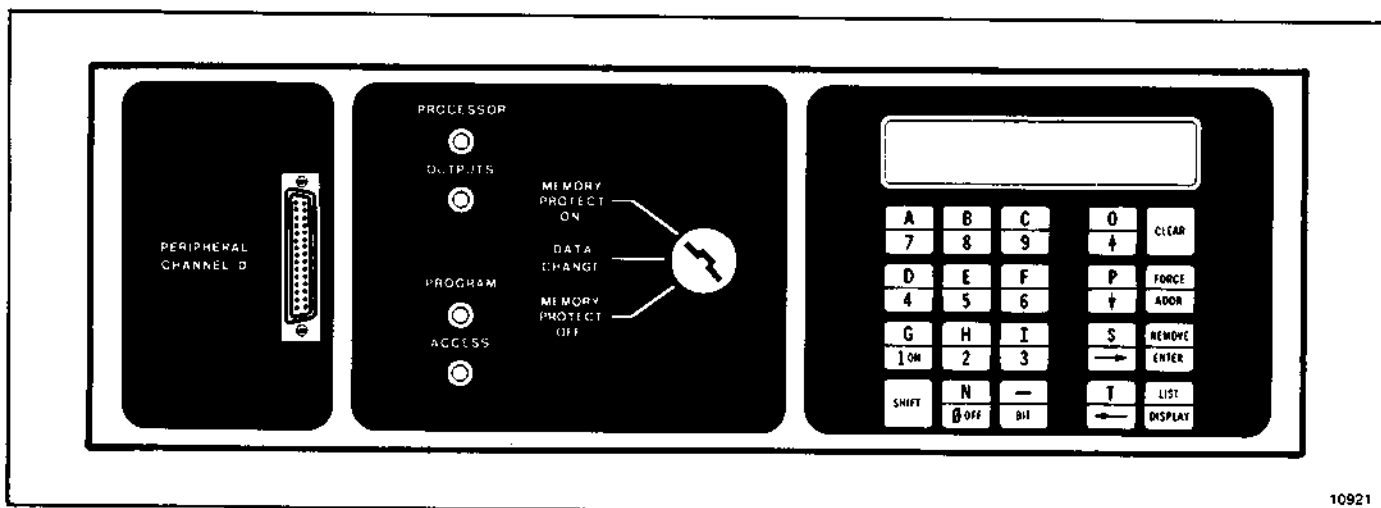

Figure 4.1 — Front Panel
4.0 General Across the top of the main chassis door is the front panel (figure 4.1). The front panel includes a communication channel connector, indicators, the memory protect keyswitch, and the data access panel.